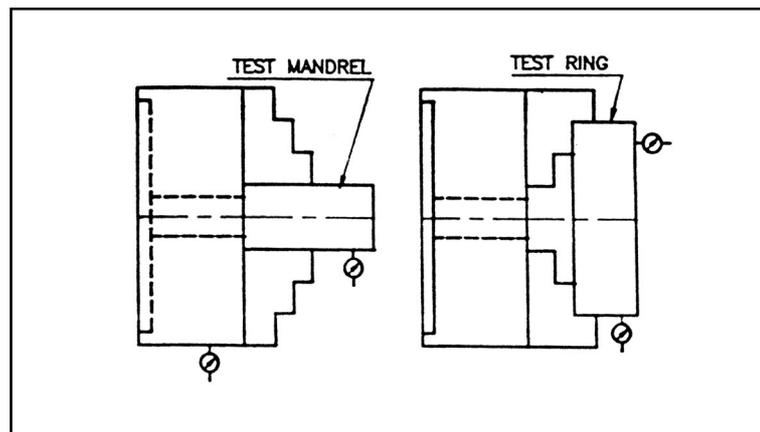

Fig No. 2
- 2.7) For checking concentricity the Test Mandrels and Test Rings should be clamped in position as shown in Fig.No.2, Recommended drawbarpull. (Refer Table 1 & 2) should be given to the chuck by setting the pressure in the power pack.